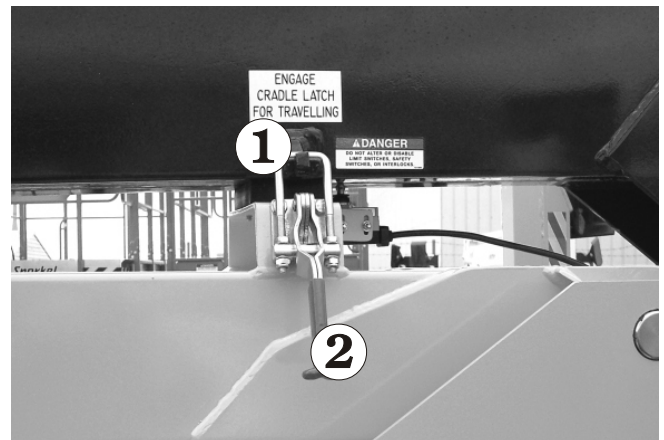

**Figure 12.3 - Upper Boom restraining Lock**
4. Insert the upper boom restraining lock pin **3** and ensure the pin keeper **4** is correctly locked in place (see Figure 12.3).